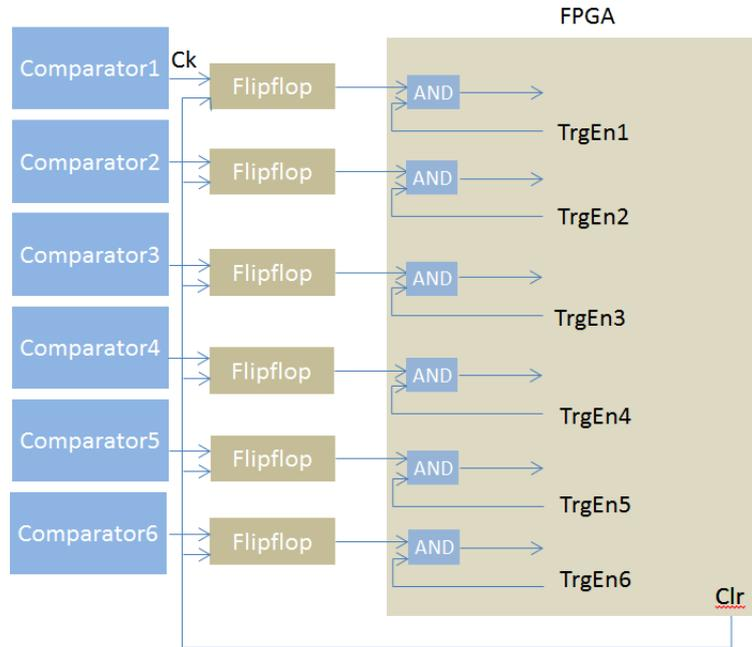

Figure 4.2: Trigger control
*TrgEn* is 6-bit word defining which trigger channel are active. A *TrgEn* bit is dedicated to each trigger channel (figure 4.2).